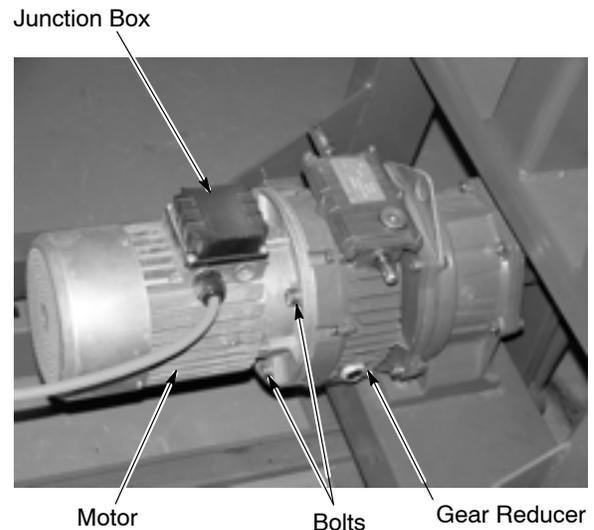

Figure 12 Motor Replacement
4. See Figure 12. Remove the junction box cover. Tag and disconnect the wiring from the motor.